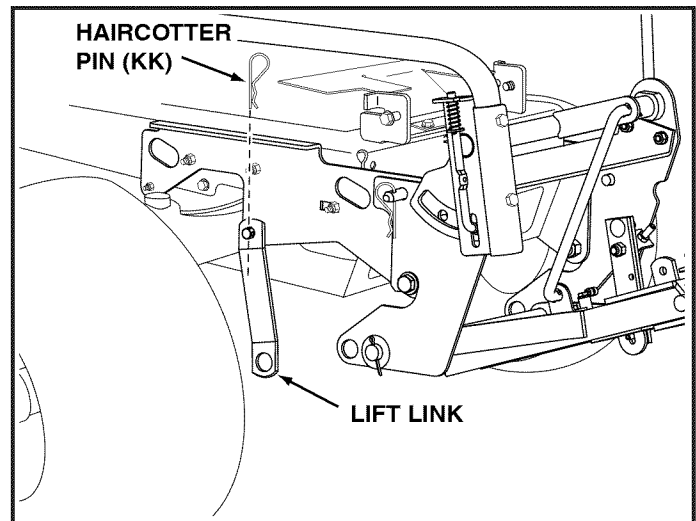

FIGURE 30
STEP 3: (SEE FIGURE 30)
- Attach the small holes of the lift links to the welded pins on the frame bracket and secure with haircutter pins (KK). The lift link should angle to the inside.